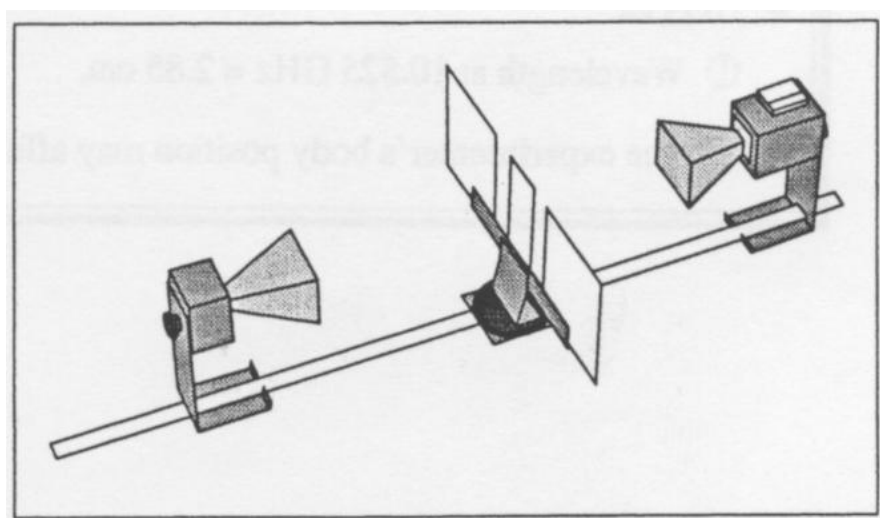

Figure 4: Set-up for double slit interference.
6. Create a double slit using a component holder, the two wide metal reflectors and the narrow reflector. Make the slit width about 1.5 cm. The distance from the centre of one slit to the centre of the other should be about 7.6 cm. Ensure that the slits are as symmetric as possible. Place the component holder on the degree plate of the goniometer and set the transmitter and receiver units directly facing each other, see Figure 4.